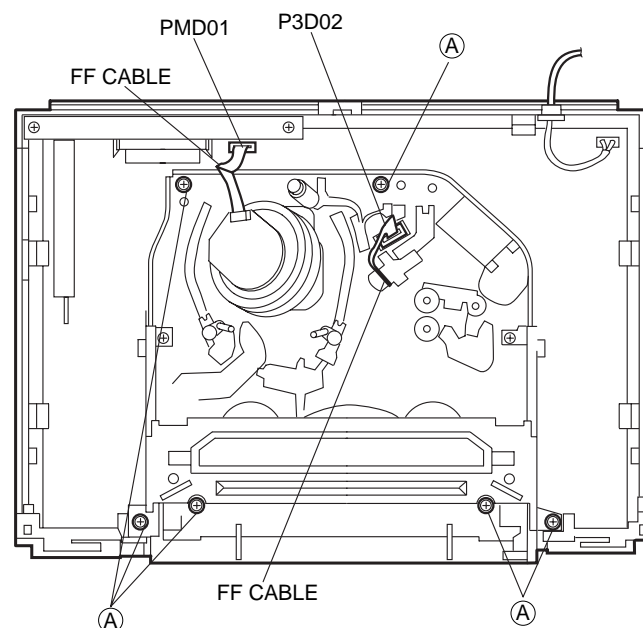

Fig. 3
4. Mechanism Removal (see Fig. 3)